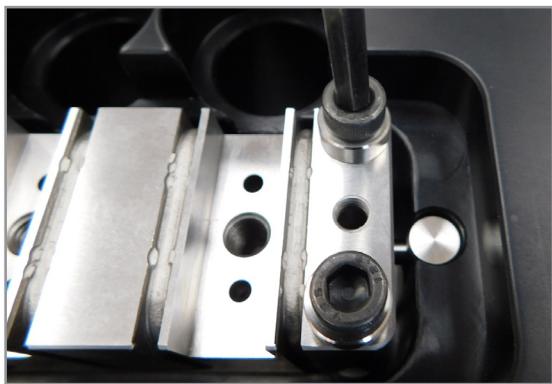

Figure 5-97 Install washers and bolts
5. Install the four titanium washers and the four M6 bolts. Tighten to 14 Nm (10 ft.-lb). See Figure 5-97.